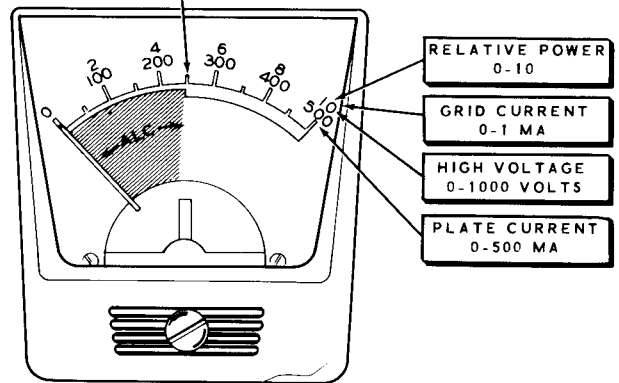

FIGURE 5-1
- ( ) Key the Transmitter and adjust the BIAS ADJUST control for a 50 ma indication on the meter of the Transmitter. Refer to Figure 5-1 on Page 108 for the explanation of the meter scales.
Refer to Figure 5-1, and study the meter scale. Note how it reads for various positions of the Meter switch. Observe that the meter has two main scales and an ALC area. The scale numbered from 0 to 10 is read directly for relative power indications. For Grid Current readings, each small scale division represents .1 milliamperes. For High Voltage readings, each small scale division represents 100 volts.